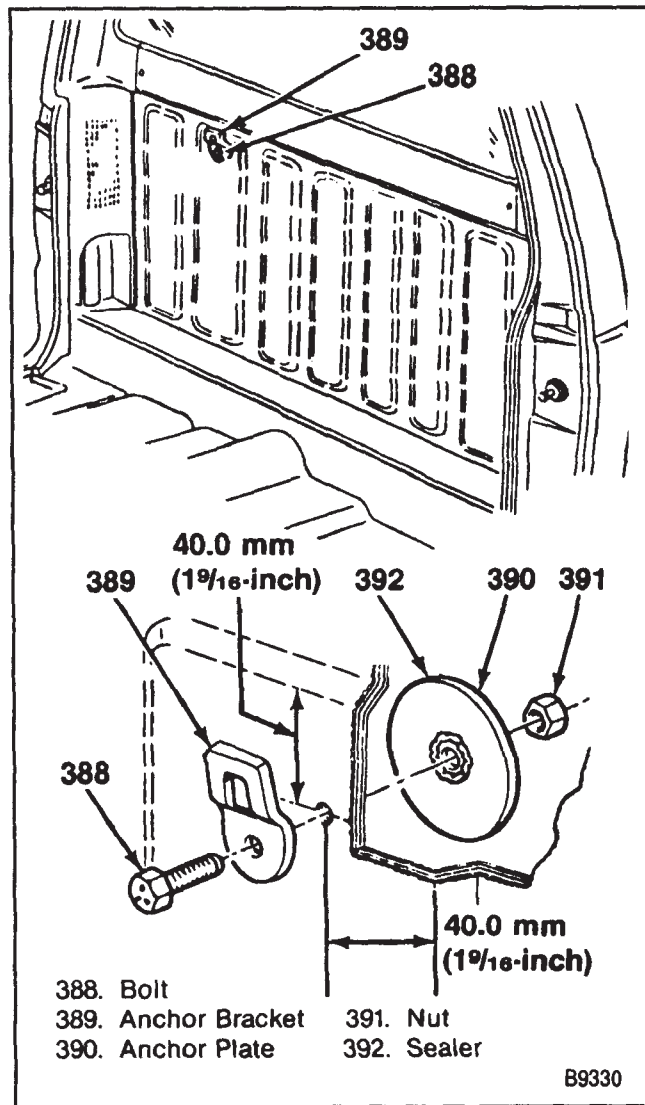

Figure 22—Pickup and Extended Cab Anchor Installation Points
1. Remove the rear carpet panel (figure 22).